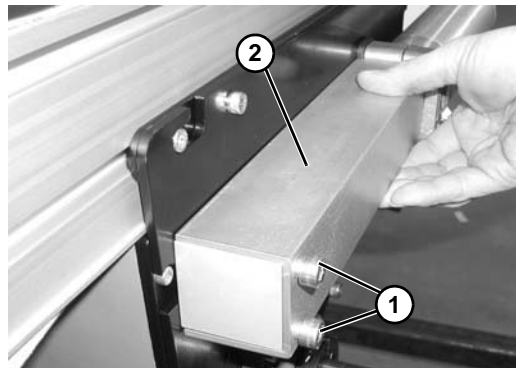

Figure 34
5. Remove screws (**Figure 34, item 1**) and tensioning guards (**Figure 34, item 2**) from both sides of center drive.